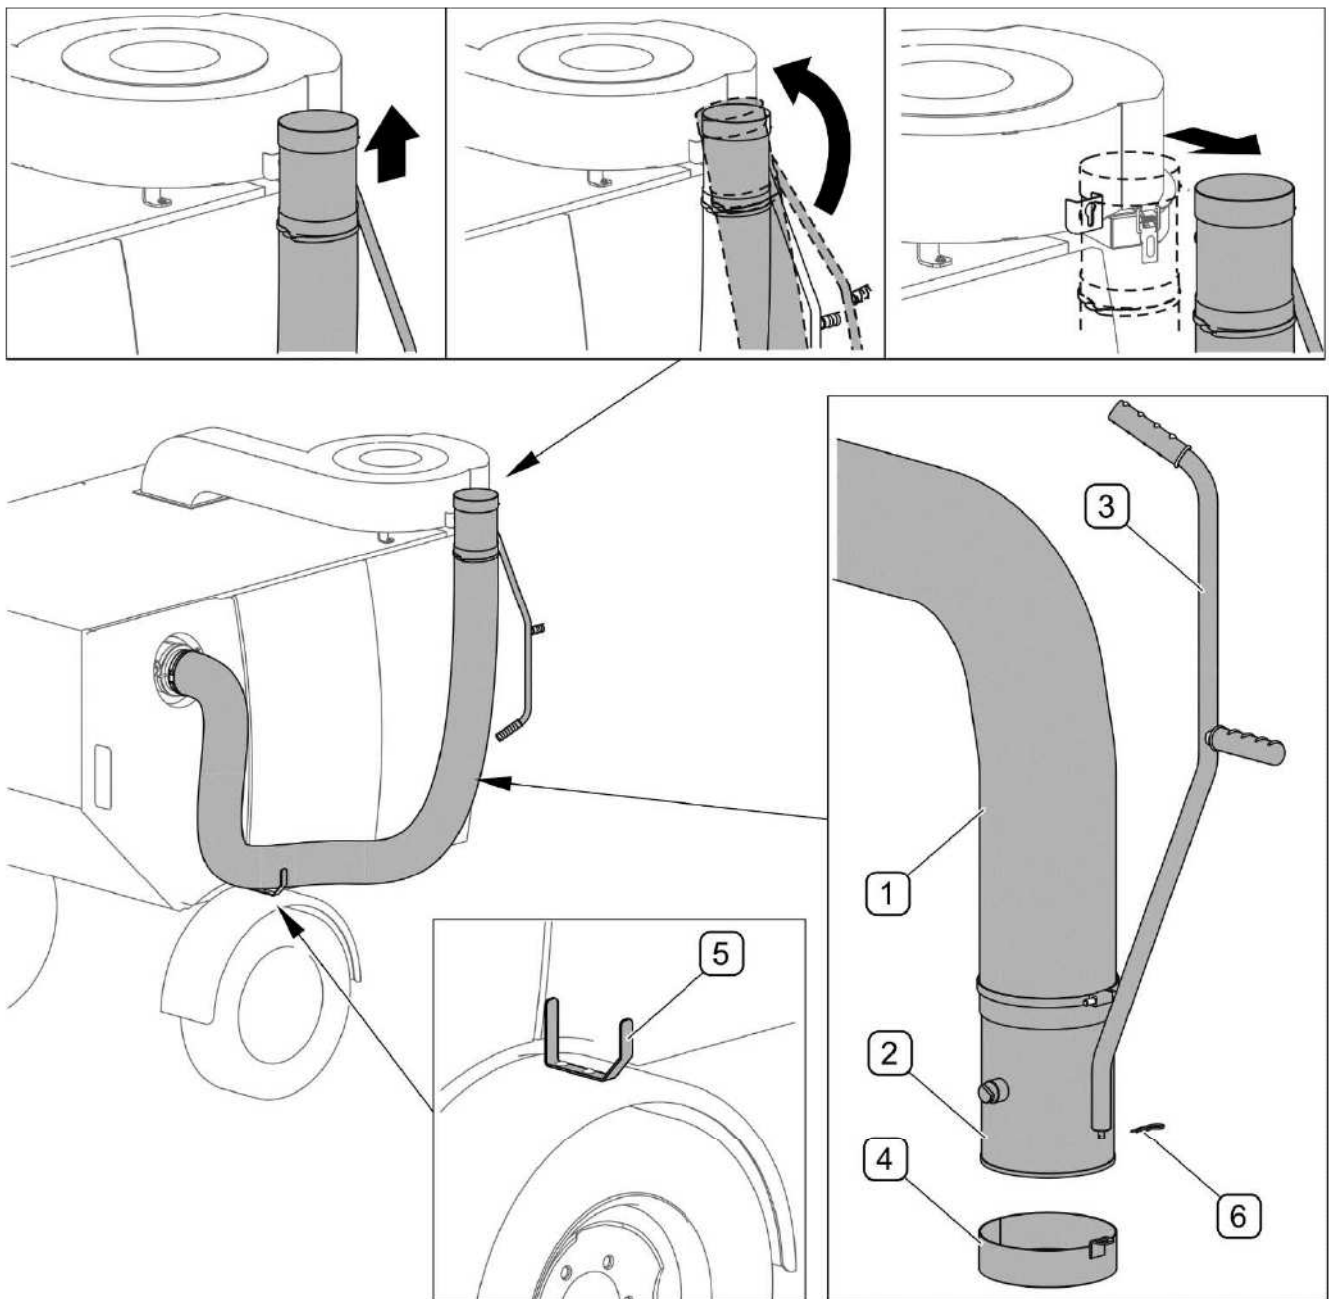

FIG. 4.19 Attachment for collecting leaves
(1) - suction pipe; (2) - suction tip; (3) - grip; (4) - cover; (5) - bracket; (6) - securing cotter pin
The side attachment for collecting leaves (FIG. 4.19) consists of suction pipe (1), suction tip (2) with grip (3) and cover (4) secured with cotter pin (6). Suction tip (2) is attached on the